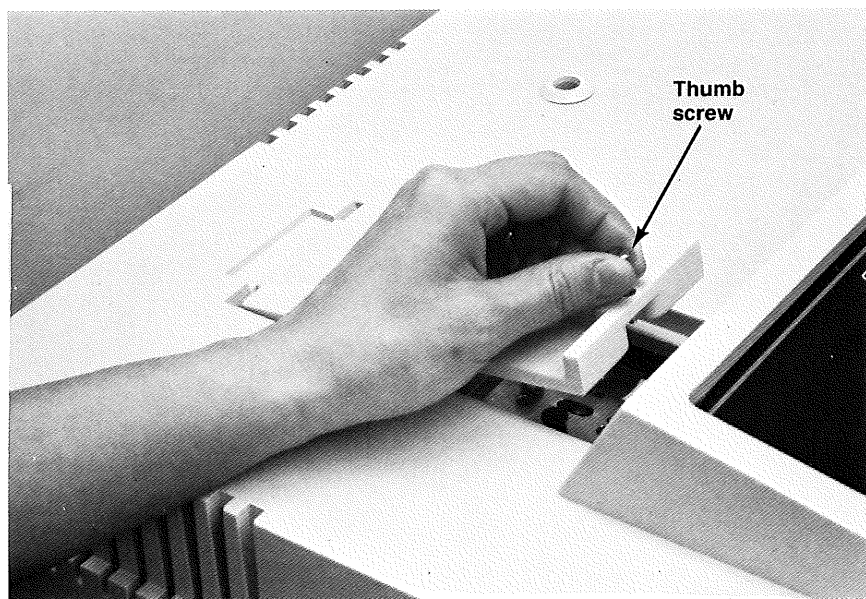

Figure 8-1.
2. Unscrew the thumb screw which secures the source cover. Open the source cover and remove it. See Figure 8-1.